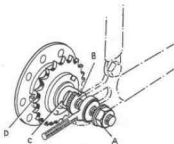

Fig. W4
Only one adjustment is necessary on the hub ballraces and this is provided on the right hand side of the spindle. To carry out this adjustment, slacken the spindle retaining nut (A. Fig. W4) on the right hand side of the engine unit and the adjusting cone locknut (B). The cone (C) can then be adjusted, and this adjustment should be carried out so that with the locknut (B) and spindle retaining nut (A) retightened, there is just perceptible play (*i.e.*, about 1/64 in.) at the wheel rim. This may be judged by screwing in the cone until resistance to free-wheeling of the sprocket can be felt and then unscrew the cone about a quarter of a turn before tightening the locknut. The amount of play at the wheel rim must always be the final test and it is most important that this adjustment is accurately carried out.